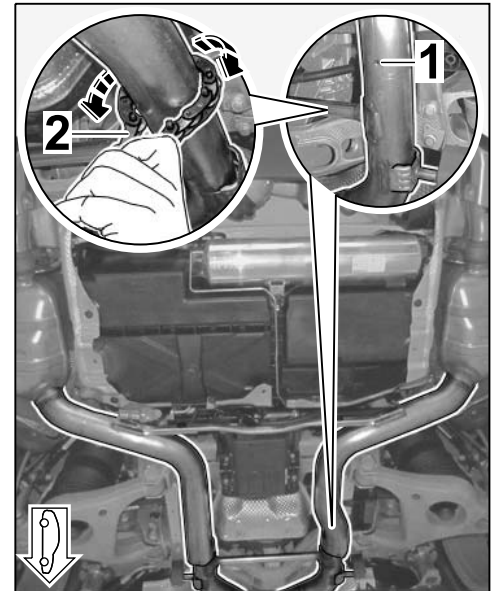

Figure 7
3.1.1 Remove rear mufflers ( ⇒ *Workshop Manual '263319 Removing and installing rear silencer', ⇒ Figure 7).*